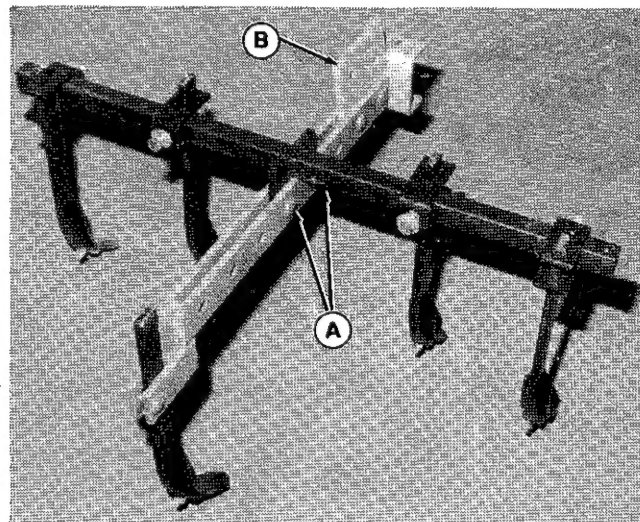

Figure 7. Cultivator A. Bolts B. Yoke
2. Install the yoke on the tool bar as shown in figure 7. Be sure to use lower two holes in yoke. Attach the tool bar to the hitch on the tractor, placing the hitch pin in the center hole of the yoke. Tighten the hitch stabilizer bolts evenly against the stabilizer plate.